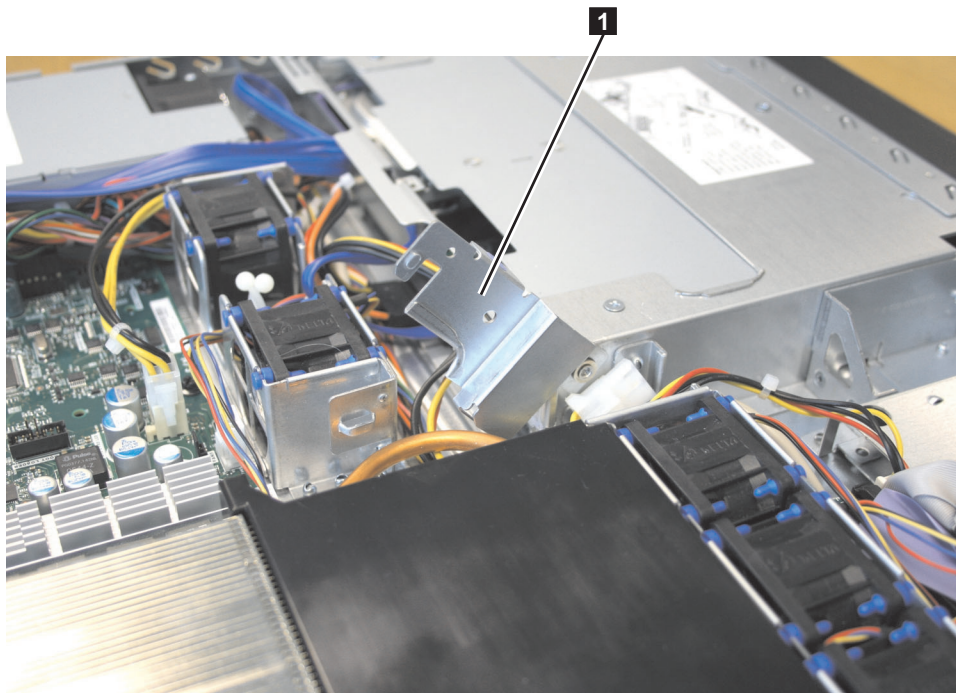

Figure 124. Air deflector for the SAN Volume Controller 2145-8A4 power supply
1. Make sure that the air deflector **1**, which is shown in Figure 124, is in the open position.
5. Rotate the air deflector (**1** in Figure 124 on page 135) into place, making sure not to pinch any cables beneath it, and press it down firmly.